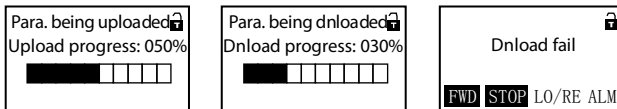

Figure 5-7 Display upload and download parameters
The upload and download parameters are as shown in Figure 5-7.
1. When downloading parameters, it displays “dFail” (Figure 5-7) which means that EEPROM storage parameters of keypad do not match with function parameters of HD3Z (Figure 5-7). First upload correct function code to keypad and then download to control board.